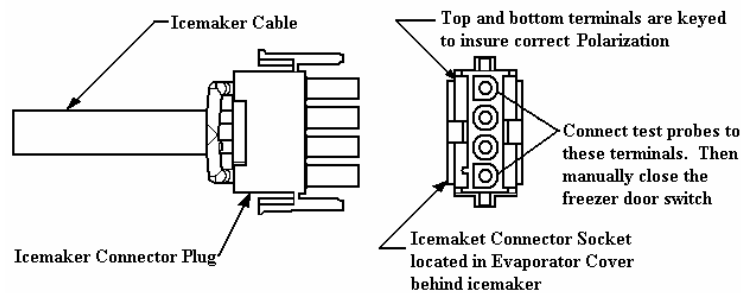

FIGURE 4 Checking for power with a test light or voltmeter.
3. Checking for power with a test device: See figure 4. unplug the icemaker and connect a test light or a voltmeter to the top and bottom terminals of the 4-pole connector socket. Manually close the freezer door switch. If there is power, check for water next. If there is not power at the icemaker connector, trace power from the wall socket to the door switch to the connector. (Con't)